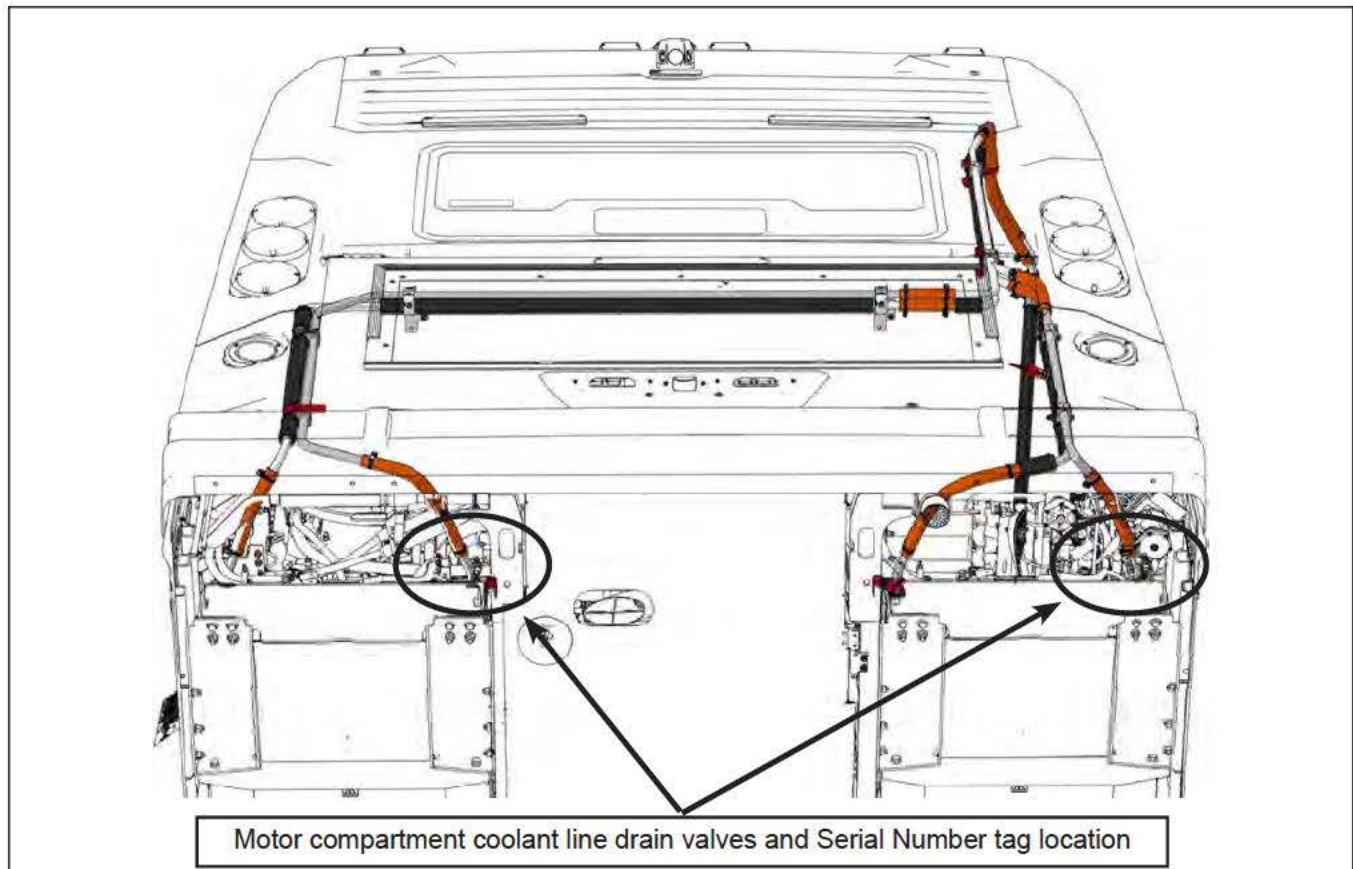

Figure 1 - Motor Compartment Coolant Line Drain Valves Location
- 1.4. Open the two drain valves of the battery thermal management system (BTMS) coolant circuit located in the motor compartment and drain the coolant into a clean container. Retain the coolant. See Figure 1.
- 1.6. Note the serial number of each removed HV battery pack and write this number on the **HV BATTERY PACK SERIAL NUMBER TABLE** available in the Annex of this document. See Figure 1.